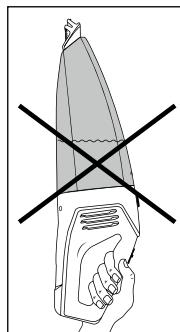

Fig. 4
- If you carry the appliance horizontally or with the wet suction nozzle **1** pointing upwards, it is possible that liquid can leak out (see fig. 4 and 5):